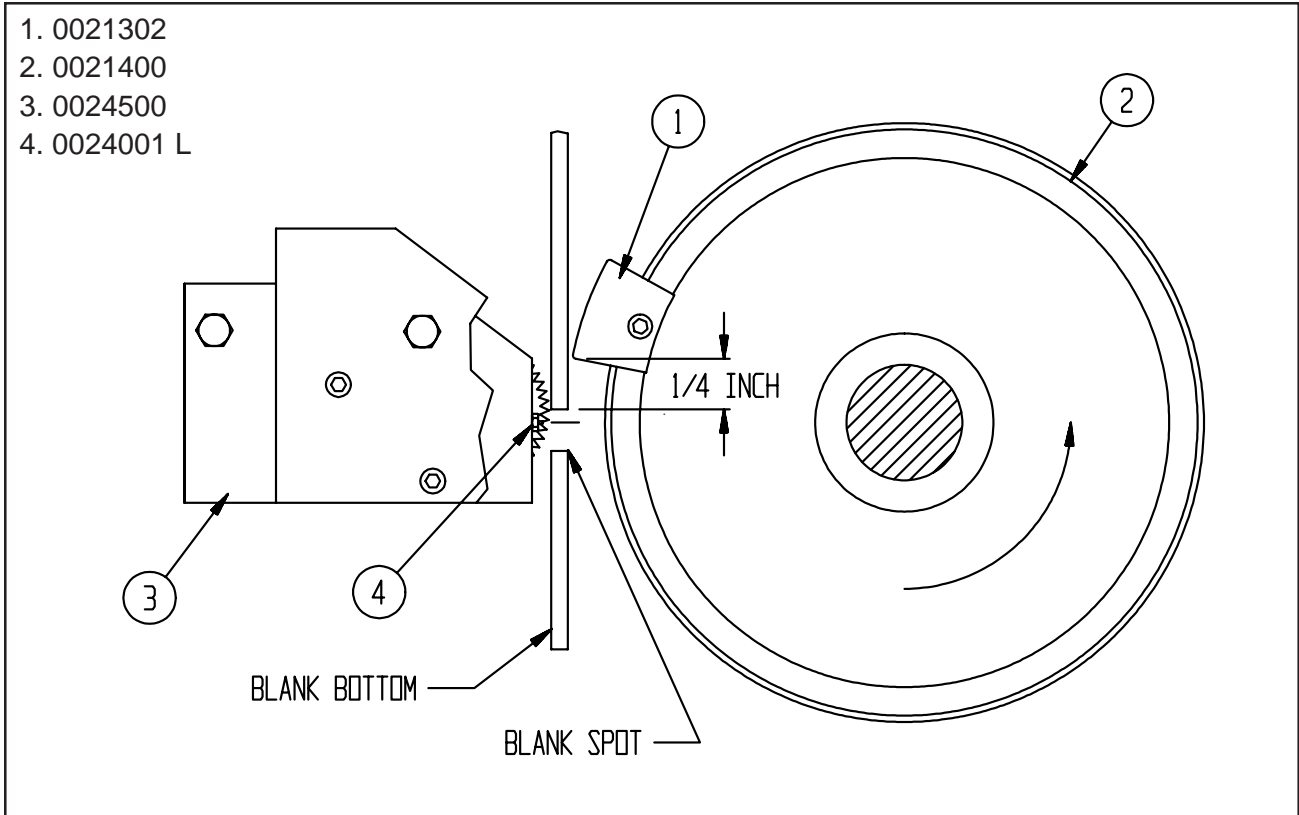
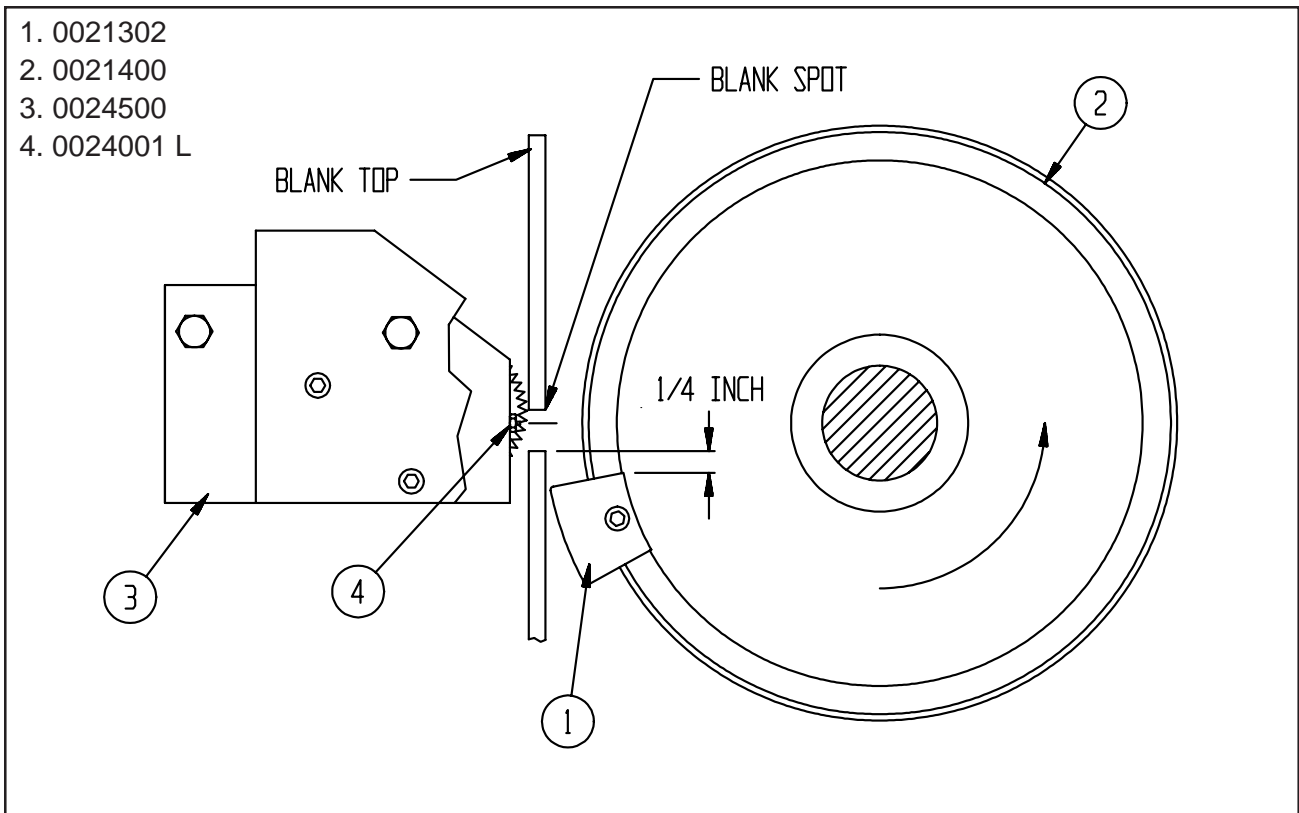

Figure 5-17A: Adjust Adhesive Program Segments
Figure 5-17B: Adjust Adhesive Program Segments
The Adhesive Program Segments (0021302) are located on the Adhesive Program Discs (0021400) which are fitted on the Blank Feed Roller Shaft (0015205 or 0015206). To be sure program Segments are centered with the Glue Dump Drive Wheel (0024400), mount one (1) Segment on the Program Disc. Slide the Program Disc (with Segment) over to the Glue Pump Drive Wheel and center the slot in the Segment with the Drive Wheel. After centering, use the Set Collar located outside of the Program Disc as a stop by locating it flush with the Program Disc and tightening the set screw in the Set Collar. With the Hopper full of Blanks, rotate the machine in its correct forming direction feeding the Blank down until the first slot aligns with the Glue Pump Jets (0024500). The Glue Jets are located on the rear face of the Glue Pump Housing (0024002 R/L). Adjustment is made by the 5/16 set screw holding the Program Segment to the Program Wheel. Slide the Program Disc cover to the Set Collar Stops. Referring to Figure 5-17A, slide the first Segment around until its leading edge is 1/4 inch above the cut-out on the Blank. Rotate the machine in its forming direction until the second cut-out of the Blank is aligned with the Glue Pump Jets. Referring to Figure 5-17B, slide the last Program Segment around until its trailing edge is 1/4 inch below the cut-out on the Blank. Be sure the 5/16 set screws are tight in all Segments.